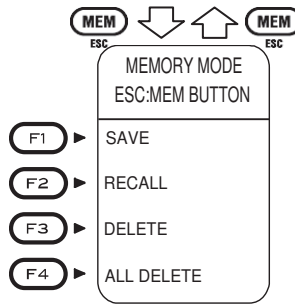

Fig. 52-2
If you select “MENU” and press F4(OK) switch, “Recall / delete screen” will be displayed.(Fig 52-2). You can recall or delete the saved data at “Recall / delete screen” . Use the UP or DOWN Button and change settings.